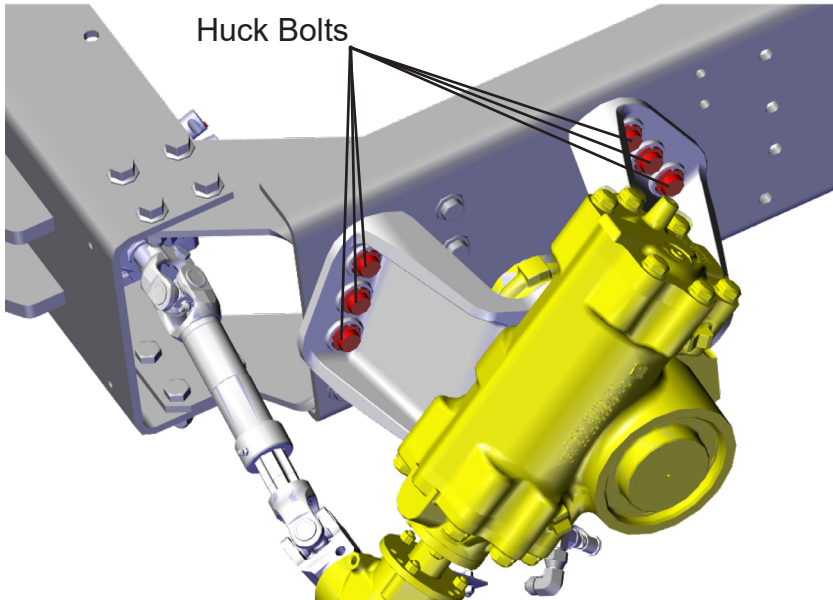

Figure 4
10. Remove the six huck bolts securing steering gear and bracket to frame rail. See Figure 4.